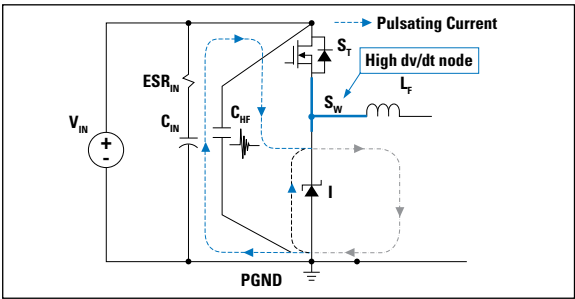

Figure 5
- 3: Input loop area should be kept as small as possible, which is shown in the blue-dashed area of **Figure 5**. C_{IN} should be connected with the anode of catch diode directly.